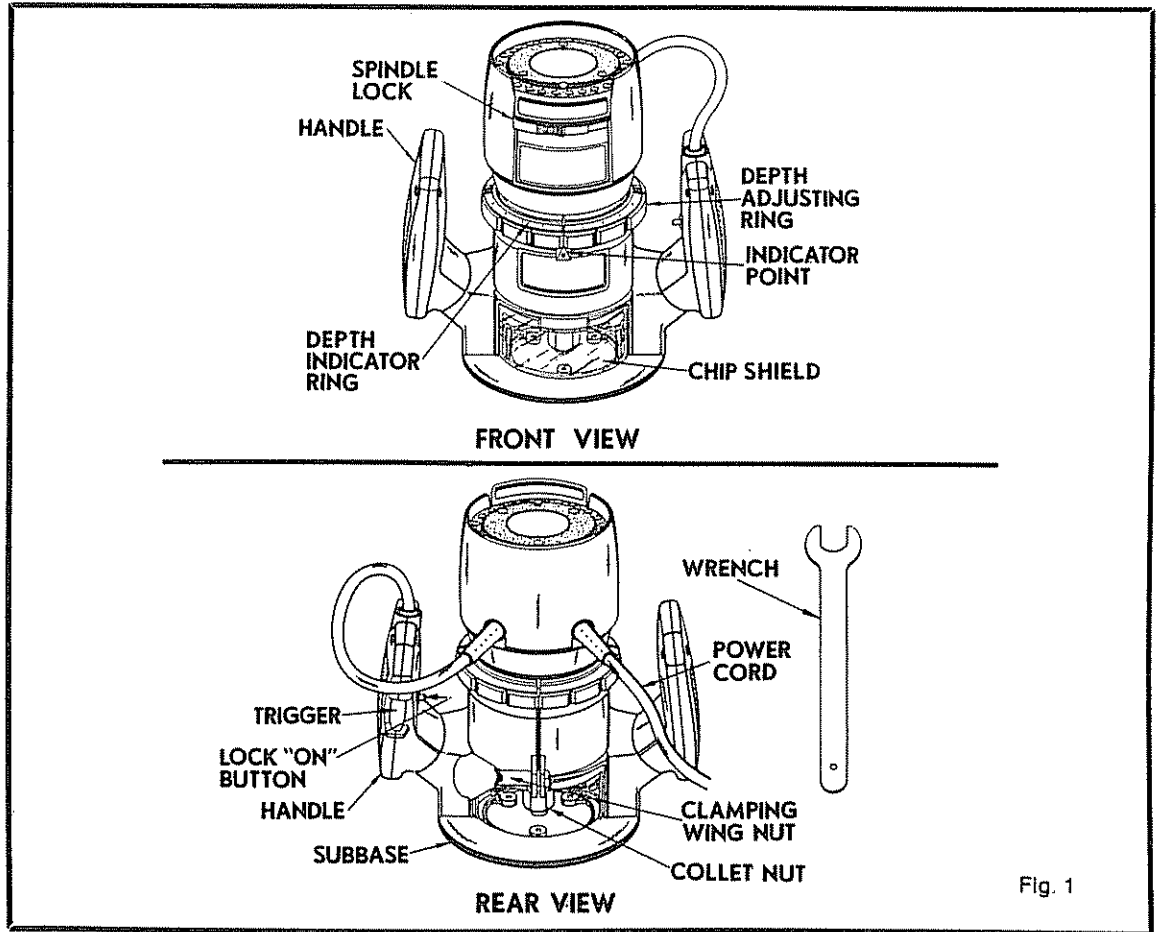

Fig. 1
If any parts are missing do not operate your Router until the missing parts are replaced See Figure 1.
Before attempting to use your router, familiarize yourself with all operating features and safety requirements. See Figure 1.
A clear plastic chip shield is installed on the front of your router for protection against flying dust and chips. The chip shield is designed to fit the front opening of the router base as shown in figure 1. If necessary to remove, squeeze the tabs on each end and pull outward. To replace, squeeze the tabs at each end, fit into the opening, then release. **FOR YOUR PROTECTION DO NOT USE ROUTER WITHOUT CHIP SHIELD PROPERLY IN PLACE.**
2. A spindle lock is located on the front of the motor housing. See Figure 1. To activate lock, push spindle lock in and slide into lock position. **NEVER ATTEMPT TO ACTIVATE SPINDLE LOCK WHILE ROUTER MOTOR IS RUNNING OR COASTING TO A STOP.**